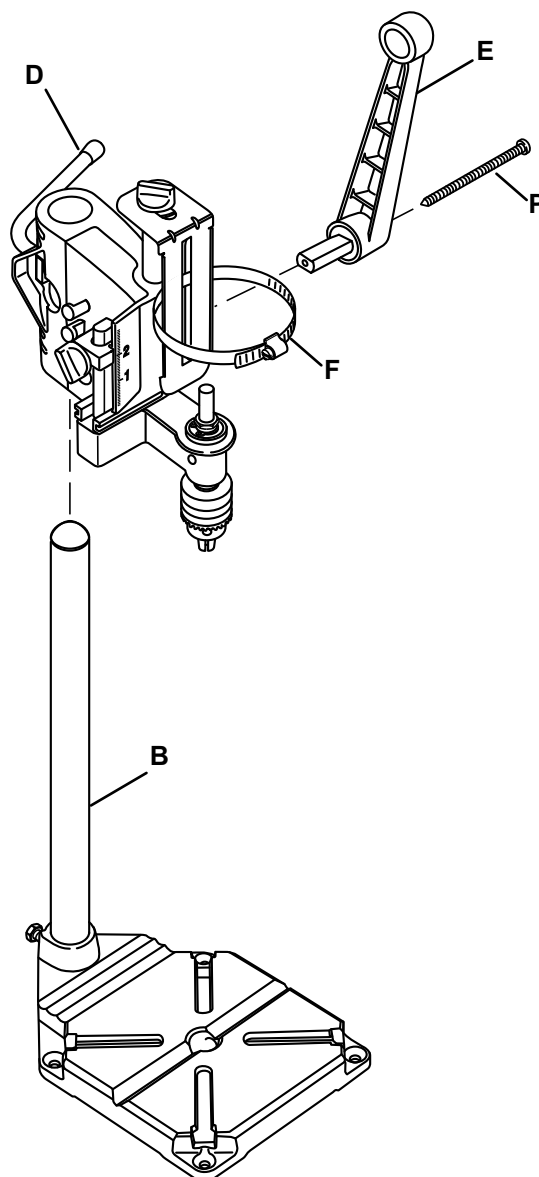

Figure 5
6. Insert quick-release clamp (**F**) through adjustment bracket. Position clamp behind outer two ribs and in front of middle rib of bracket. See Figure 5.
7. Align shaft on handle (**E**) with slot in head assembly. Install handle facing up. Secure handle with handle screw (**P**). See Figure 5.